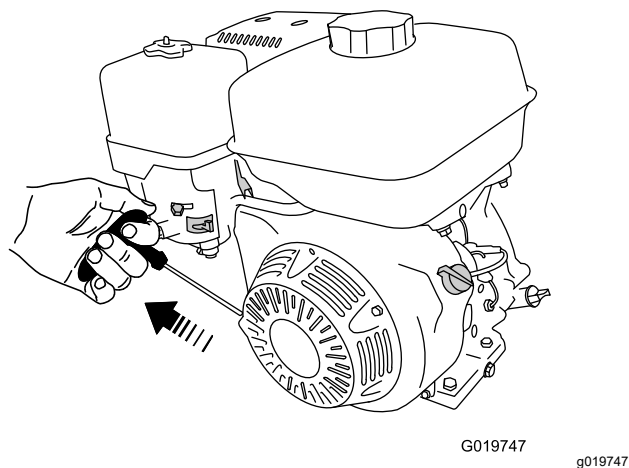

Figure 26
6. Pull the starter handle lightly until you feel resistance, then pull the handle briskly (Figure 26). Return the starter handle gently.